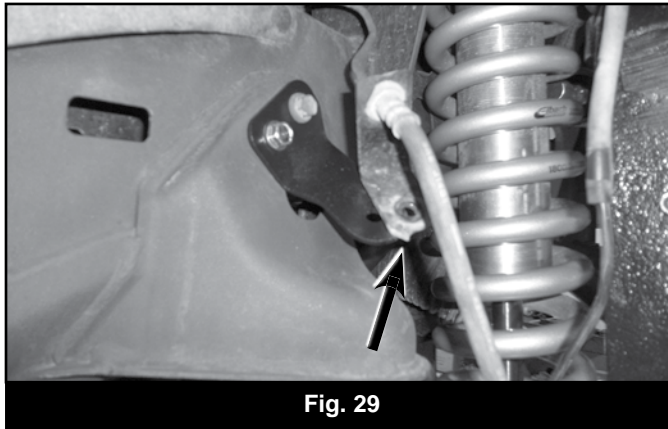

Fig. 29
61. Clearance the original brake line bracket locating hole to  $\frac{1}{4}$ "~ $\frac{9}{32}$ ". Install the brake line relocation bracket with factory bolt and  $\frac{5}{16}$ " self threading bolt. Attach the brake line to the relocation bracket with new hardware. Trim the original locating tab from the bracket. (Hardware is in bolt pack #666) (Fig 29)